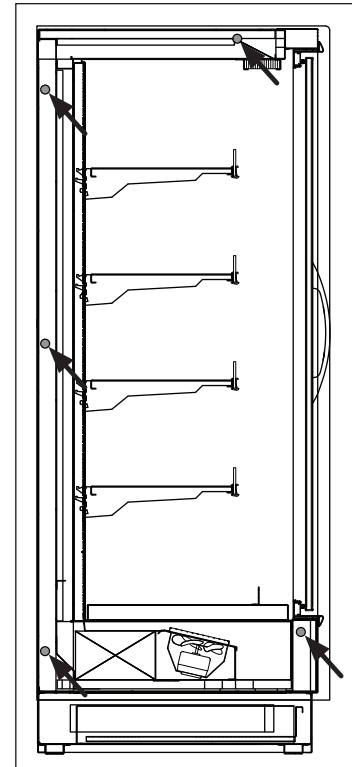

Fig. 3 Bolt locations (QCD-32-R)
4. Push the cases tightly together, then lightly bolt them together through the holes provided (Fig. 3). Tighten all the joining bolts until all margins are equal. Be careful not to over tighten.